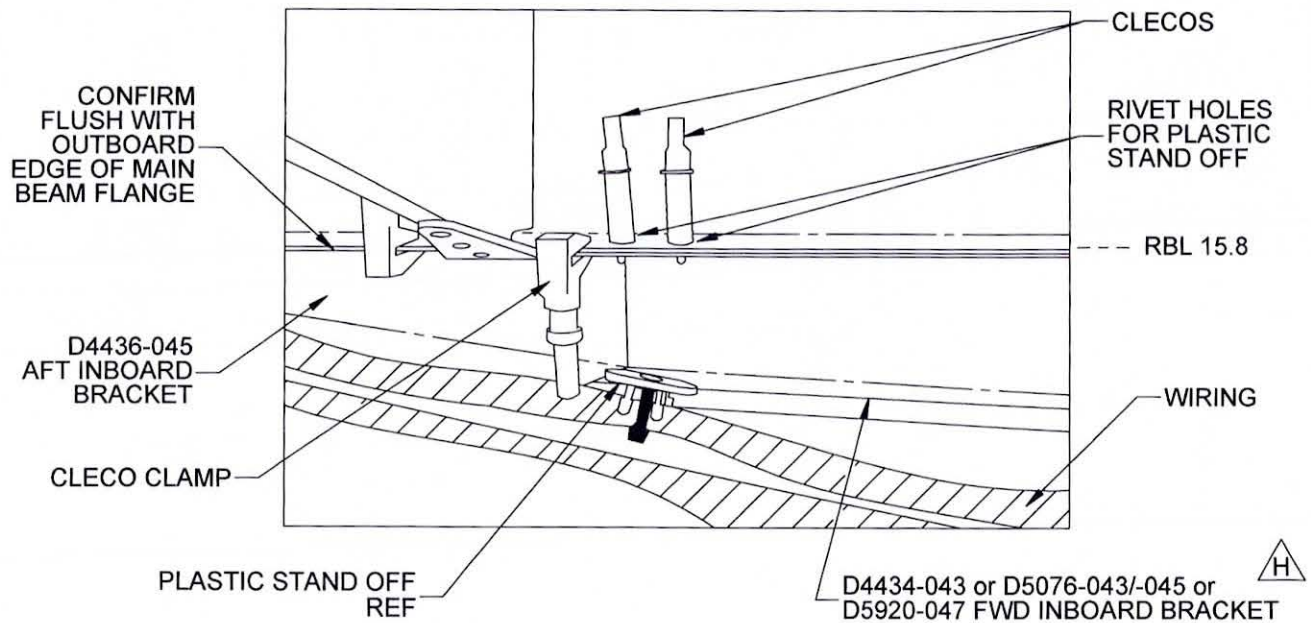

**Figure 6. D4436-043/-049 and D4436-045 Brackets Installation**
- 4.6 Drill out rivets holding plastic wire bundle stand offs. Transfer drill  $\varnothing 0.144$  holes to D4436-045 Aft Inboard Bracket per Figure 6. Transfer drill 2 x  $\varnothing 0.144$  holes to D4434-043 or D5076-043/-045 or D5920-047 Fwd Inboard Bracket per Figure 7. Transfer drill 2 x  $\varnothing 0.144$  holes to D4434-043 or D5076-043/-045 or D5920-047 Fwd Inboard Bracket per Figure 8. Before drilling confirm the D4434-043 or D5076-043/-045 or D5920-047 and D4436-045 brackets are flush with outboard edge of main beam flange. Assemble D4436-045 Aft Inboard Bracket and D4434-043 or D5076-043/-045 or D5920-047 Fwd Inboard Bracket and wire bundle stand offs to main beam flange using MS35206-229 screw, NAS1149FN616P washer and MS21042L06 nut.